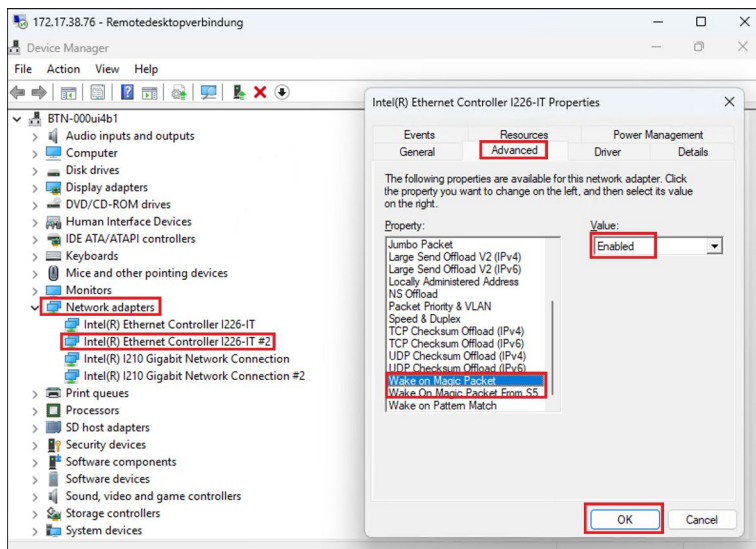

Fig. 22: Activate function
2. Lift the PC far enough so that the fastening screws slip into the keyholes (see fig. 22).